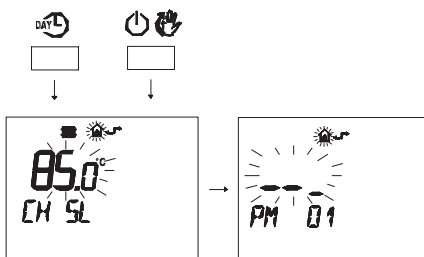

Fig. 7.41
- Press buttons **DAY** and **PM** at the same time to enter transparent programming (Fig. 7.41).